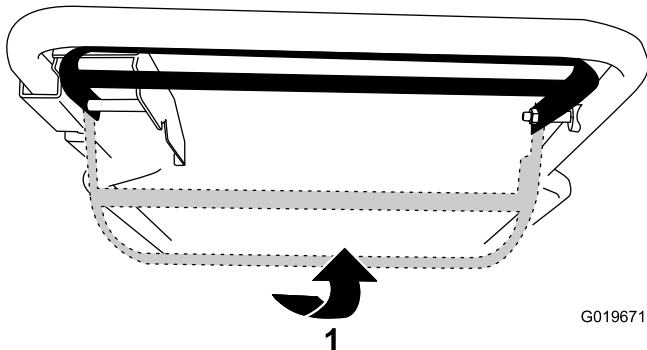

Figure 16
- To operate the self-propel drive without engaging the blades, raise the control bar to the handle (Figure 16).
- To operate the self-propel drive and engage the blades, slide the control bar all the way to the right and raise it to the handle (Figure 16).